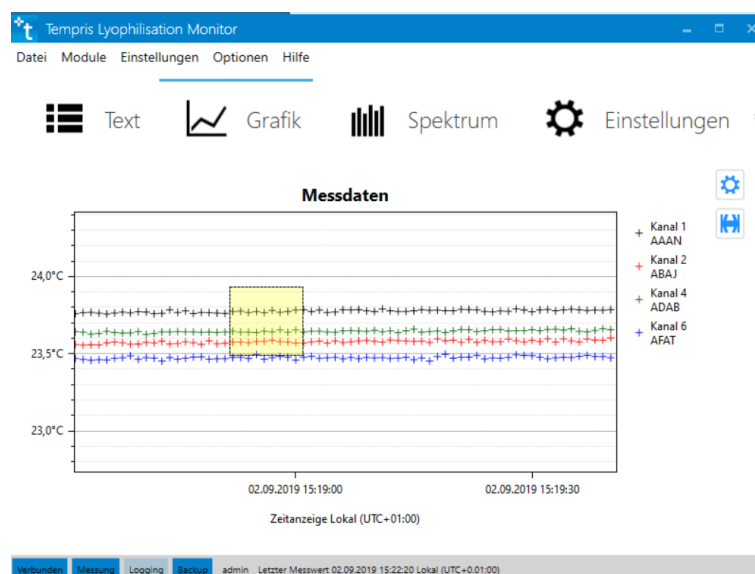

Figure 4-48: Dock-Panel Graphic-Display – click on the mouse wheel and drag to zoom to the selected yellow area
- Click the mouse wheel and drag: (Figure 4-48) (by clicking on the time or temperature axis the entire range along the time or temperature is selected)